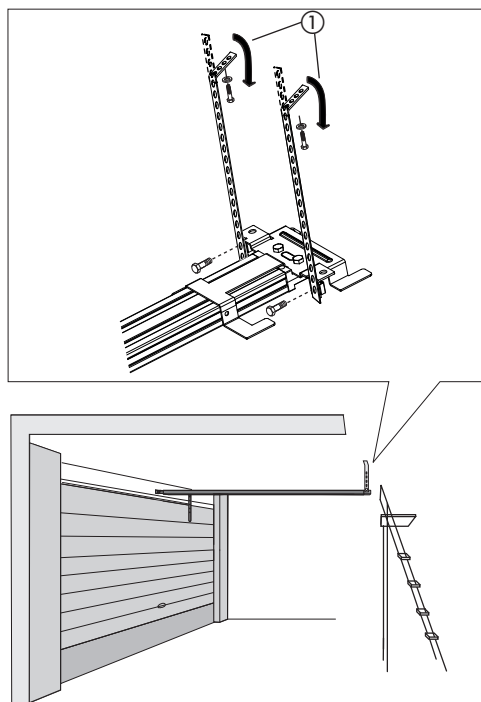

Fig. 14
- 11) Fit the brackets on the rear fitting and re-position the sliding guide (Fig. 14).